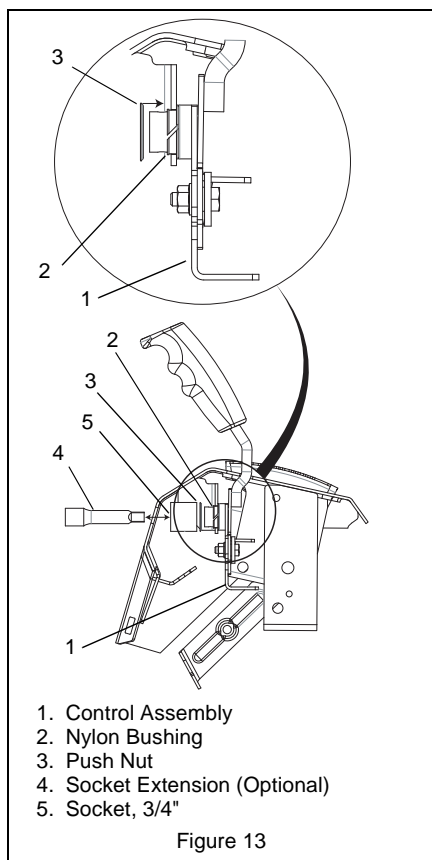

Figure 13
7. Make sure the chute control cable is routed between the lower handlebar and the bottom of the control panel, insert control assembly into slot in control panel from below and install assembly into nylon bushing in control panel. See Figure 13.